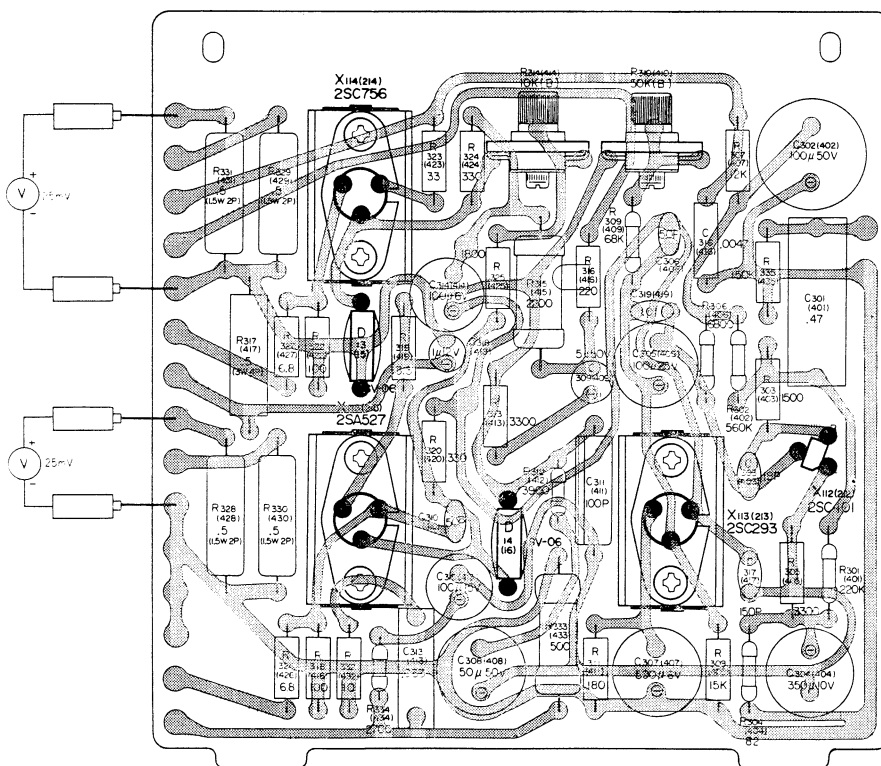

Fig. 2-3.
Step 2 : Turn the d-c bias adjustment resistor R314, (414) to obtain  $25 \pm 5\text{mV}$  reading on d-c voltmeter. See Fig. 2-3.